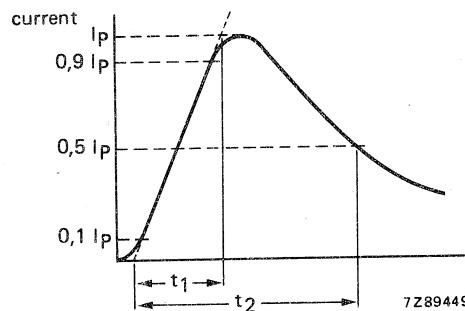

Fig. 5.
6. High energy surges are generally of longer duration. The max. energy for 1 impulse 10/1000 µs is given as a reference for long duration impulses. This impulse can be characterized by peak current I_p and impulse width t_2 (virtual time to half I_p value, defined in IEC 60-2 section 6), see Fig. 5. If V_p is the clamping voltage corresponding to I_p , the energy absorbed in the VDR is determined by equation $E = K \cdot V_p \cdot I_p \cdot t_2$; K depends on t_2 . When t_2 is 8 to 10 µs and $t_2 = 20 \mu s$, $K = 1$; when $t_2 = 50 \mu s$, $K = 1,2$; when $t_2 = 100 \mu s$, $K = 1,3$; when $t_2 = 1000 \mu s$, $K = 1,4$.